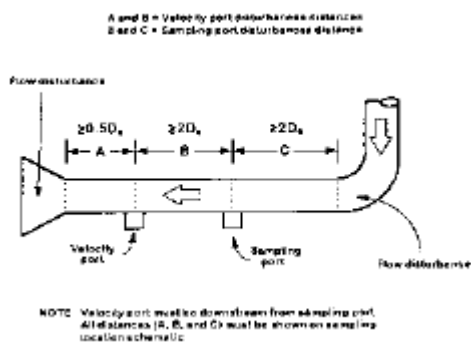

Figure 37 - Set-up of USEPA Method 1A Small Duct Sampling Locations
1. Select a site as shown in Figure 37.